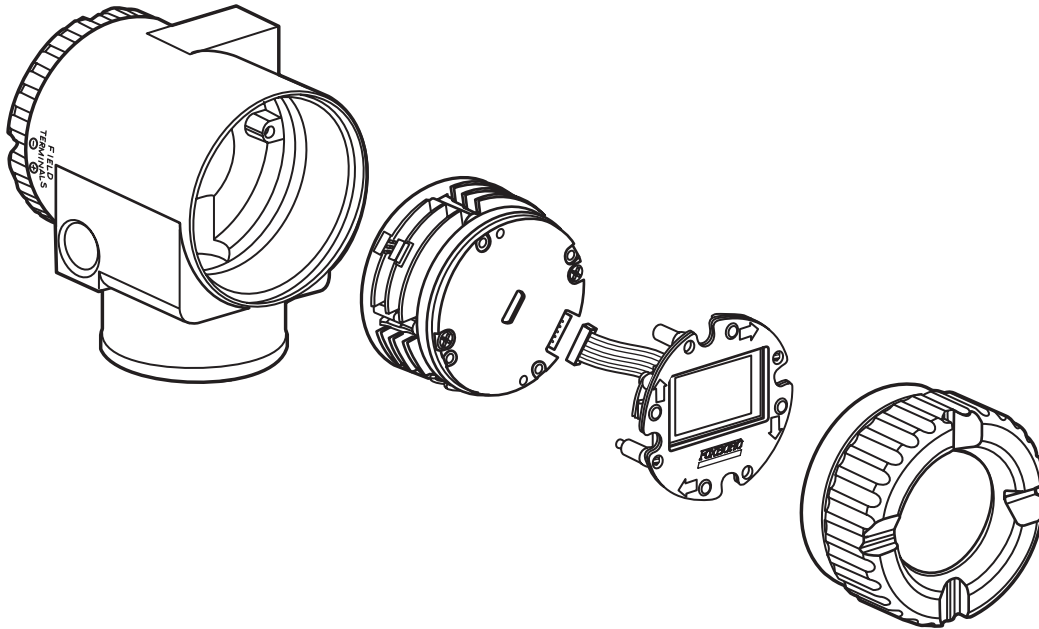

Figure 34. Electronic Module with Display Connections
6. If the electronic module was equipped with a display, reinstall the display. Carefully fold the ribbon cable in the space between display and the electronic module so that it is not pinched. The display molding should rest firmly against the module molding before tightening the screws. See Figure 34.